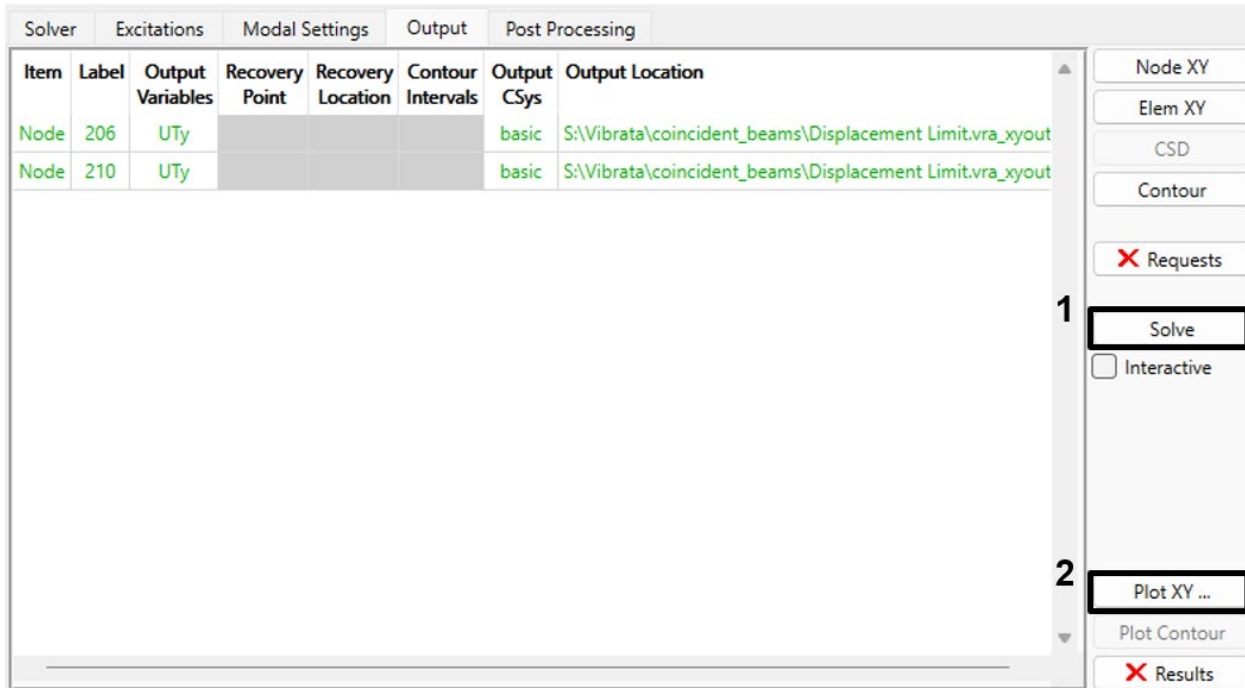
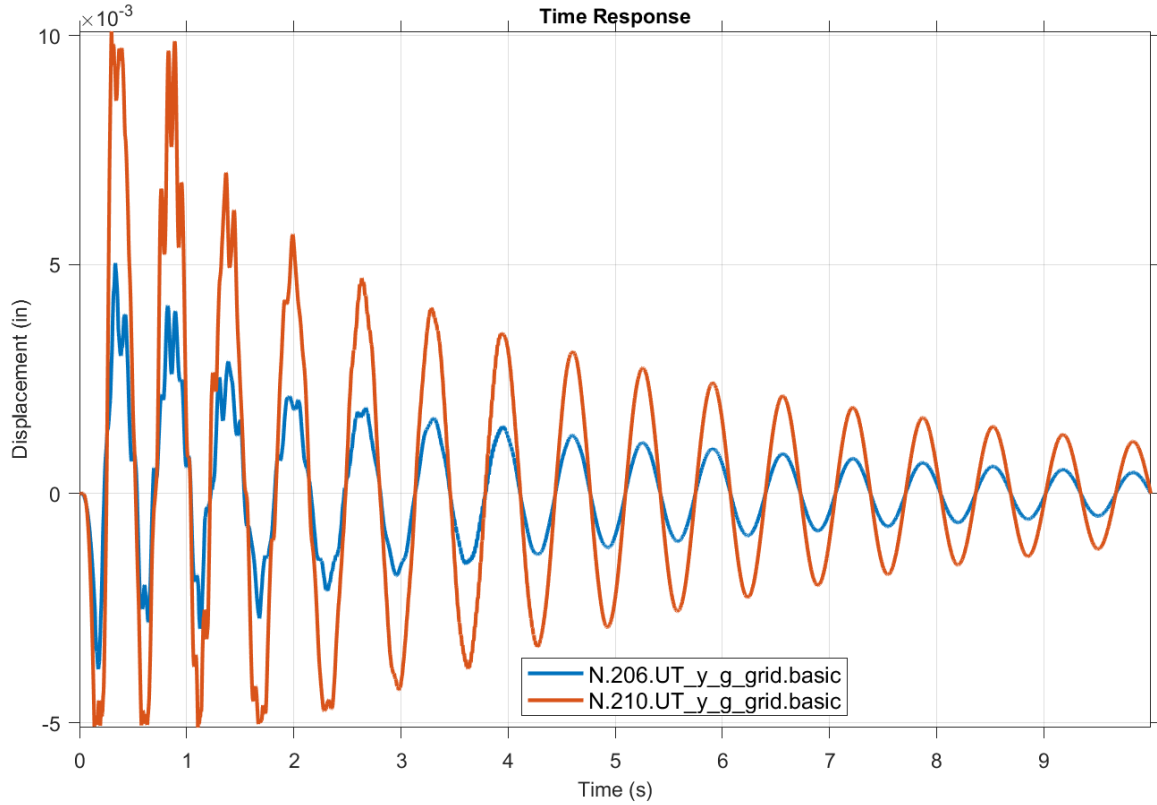

Figure 4-135. Solve the model and then plot the XY results.
Figure 4-136. The XY results demonstrate that the relative displacement at DOF 206Y and 210Y were restricted to the limits specified for the solve.
- Solve for the relative displacement output by clicking the **Solve** button on the Output tab. Once the solve is complete (Figure 4-135), plot the results by clicking the **Plot XY...** button. Figure 4-136 shows the expected results. Notice that the 210Y displacement is limited to approximately 0.01" and -0.005". The displacement exceeds these limits slightly because the restoring stiffness is finite and the displacement is limited using a restoring force proportional to the overshoot distance. Also observe that DOF 206Y also exceeds its prescribed limits slightly, indicating that the displacement limit is working at this location as well.